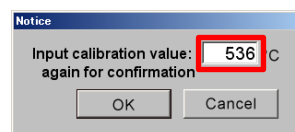

Fig. 7.3
- 7.2 For confirmation, enter the calibration value entered in Step 7.1 again in the window shown in Fig. 7.3. If two values do not match, a window shown in Fig. 4 will be displayed.